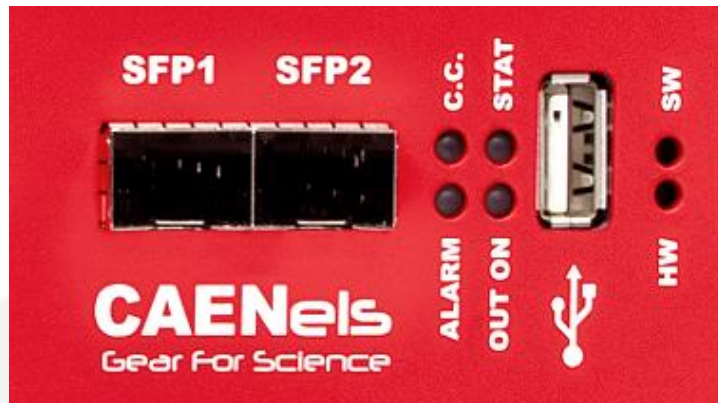

Figure 12: front panel indicators
The FAST-PS-M has four (4) front panel LED indicators as shown in the following **Figure 12**.